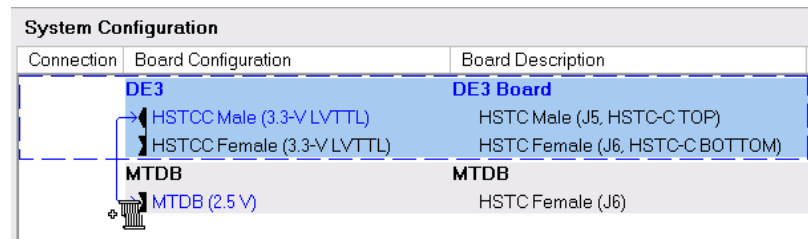

Figure 4.14. Establish a connection between the DE3 board and the MTDB board
- In the **System Configuration** field, establish a connection from the **HSTCC Male** connector of the DE3 board and the MTDB board shown in Figure 4.14.